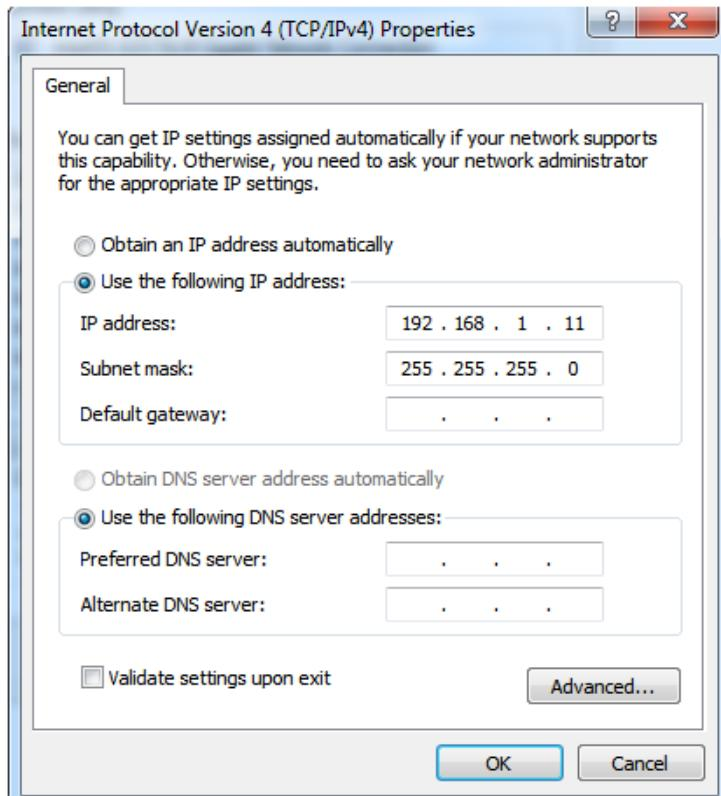

Figure 6-5: IP Address Settings
- Select **Use the following IP address** and set the values as follows (also shown in Figure 6-5):